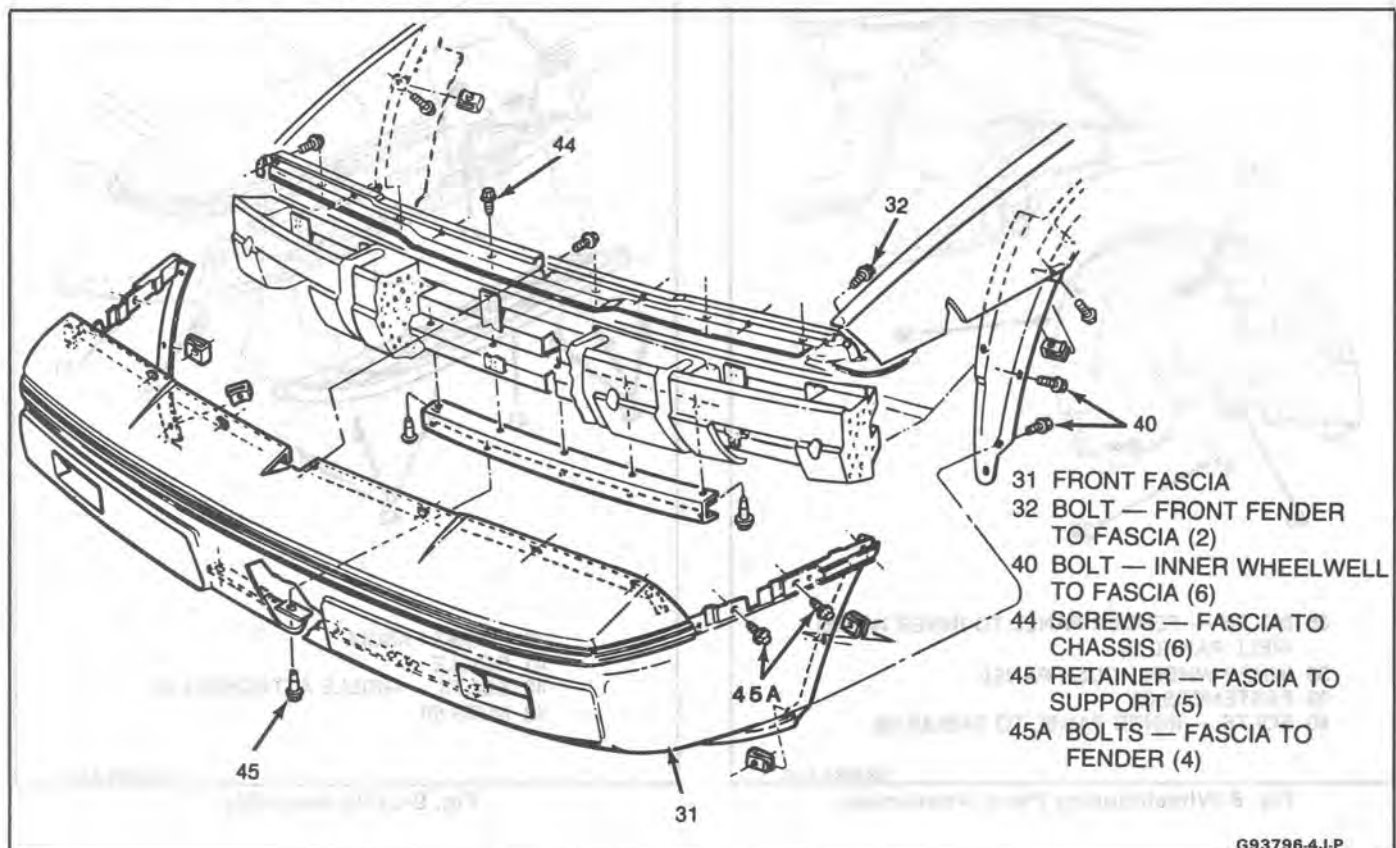

Fig. 10-Front Fascia Attachment
### ↔ Remove or Disconnect (Figure 10)
**↔** Install or Connect (Figure 10)
1. Fascia (31)
- Fascia support (45)
- Inner wheelwell to fascia (40)
3. Six screws to chassis (44)